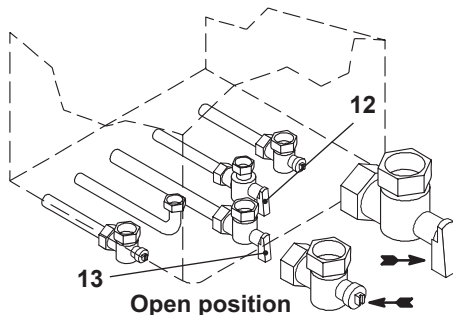

Fig. 7.1
- Open the gas cock 13 (Fig. 7.1) on the appliance and check the gas connector on
- Open the cold water inlet valve 12 (Fig. 7.1).